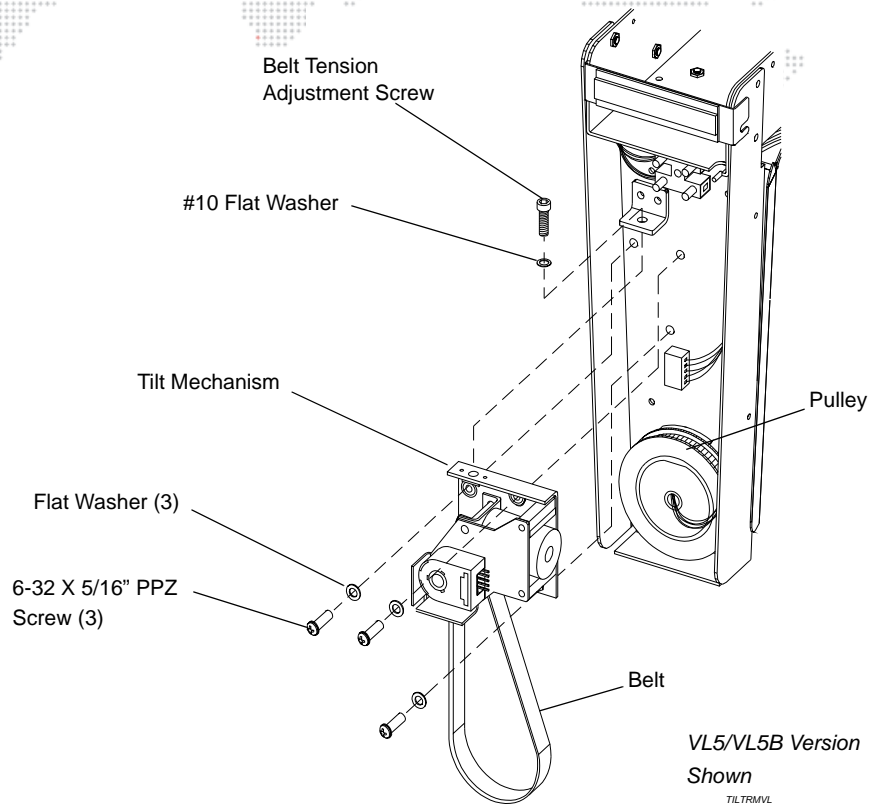

Figure 2-26: Tilt Mechanism Assembly Replacement
- Step 4. At top of yoke, using 5/32" Allen wrench, insert wrench through hole in top of yoke cross member and into head of 10-32 X 1" SCSS belt tension and adjustment screw, and remove screw and #10 flat washer. **Figure 2-26.**